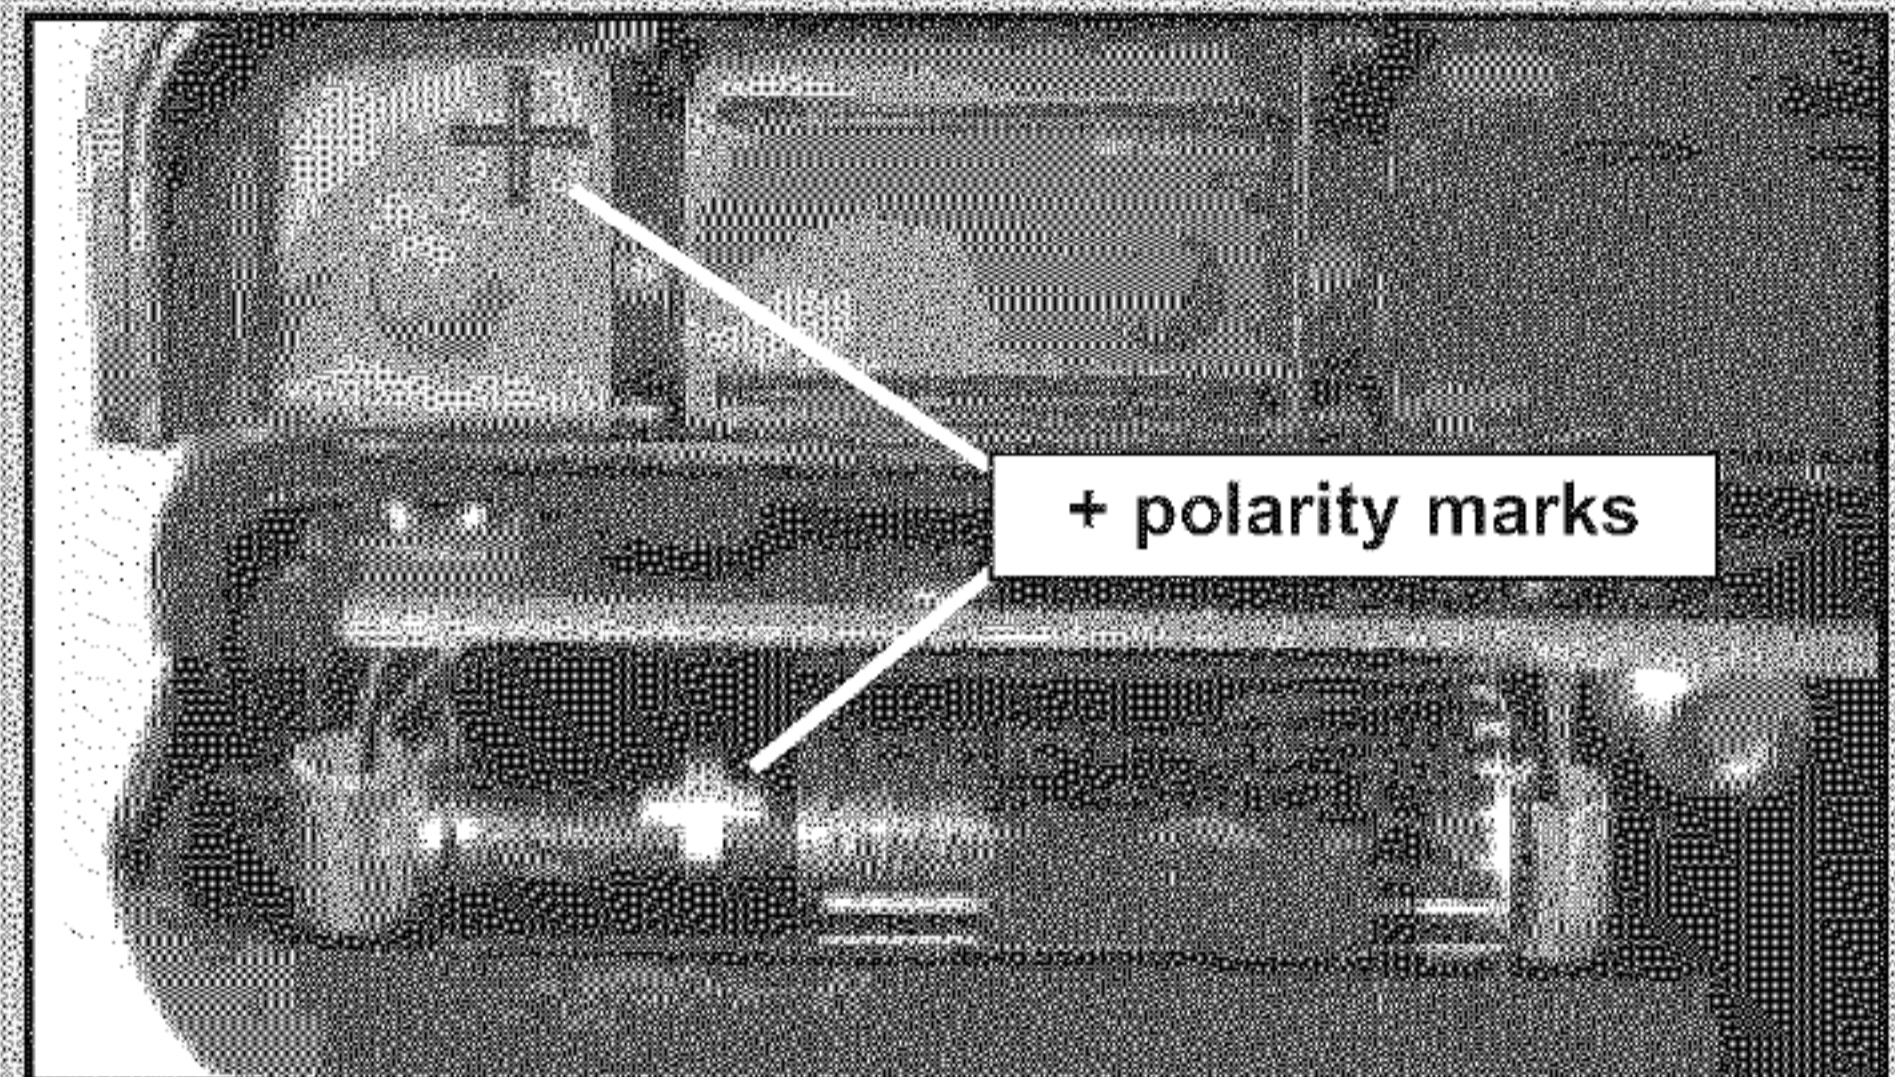

FIG. 9-2 Match battery polarity.
- Make sure new battery is facing proper direction (Match battery polarity with symbols inside battery cover) (fig. 9-2).